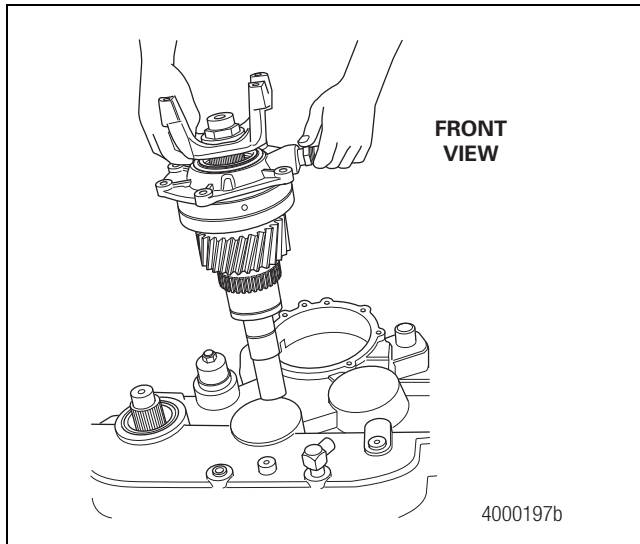

Figure 4.3
8. Remove the input bearing cage and input shaft assembly from the transfer case. If necessary, use a yoke puller or an appropriate lifting device. It may be necessary to gently pry the input bearing cage up to dislodge it from the transfer case. Figure 4.3.